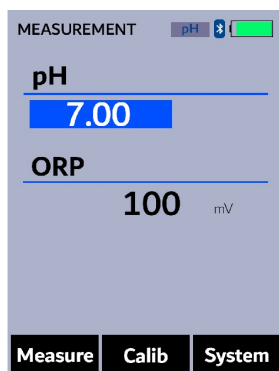

Figure 11.
6. The pH and ORP values will be updated every two seconds on the SP-710 main module display. The values will be displayed in white with a **blue background** once a stable value is reached (Figure 11).